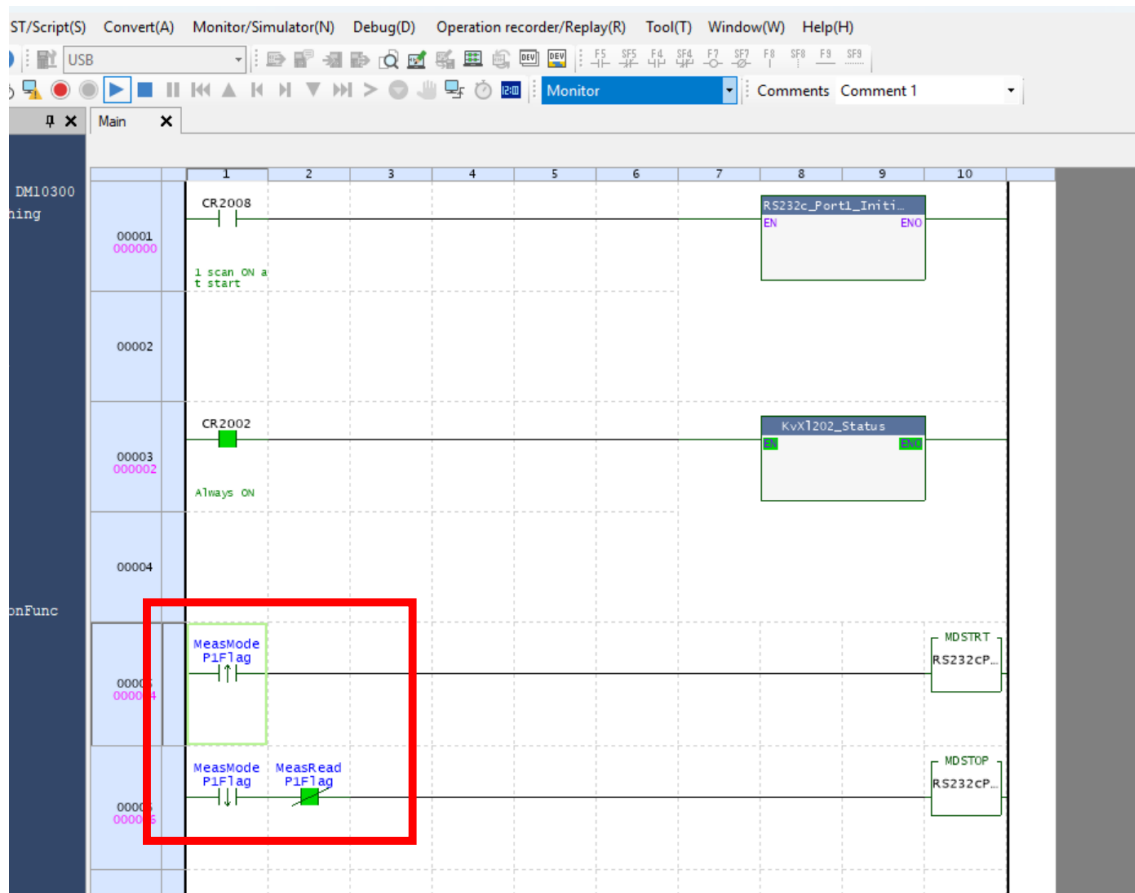

Fig 12 Main Ladder Program
- ① Click on [Monitor/Simulator] -> [Monitor mode]. (Already done in Section 1.6)
- ② Turning on MeasModeP1Flag in the main program executes the measurement program of the standby module.
- ③ When MeasReadP1Flag is turned on and MeasModeP1Flag is turned on, the measurement program is repeated. When exiting, turn MeasReadP1Flag OFF. (Fig 12)
- ④ Click on [Monitor/Simulator] -> [Return to Editor], when you want to exit. (Fig 12)